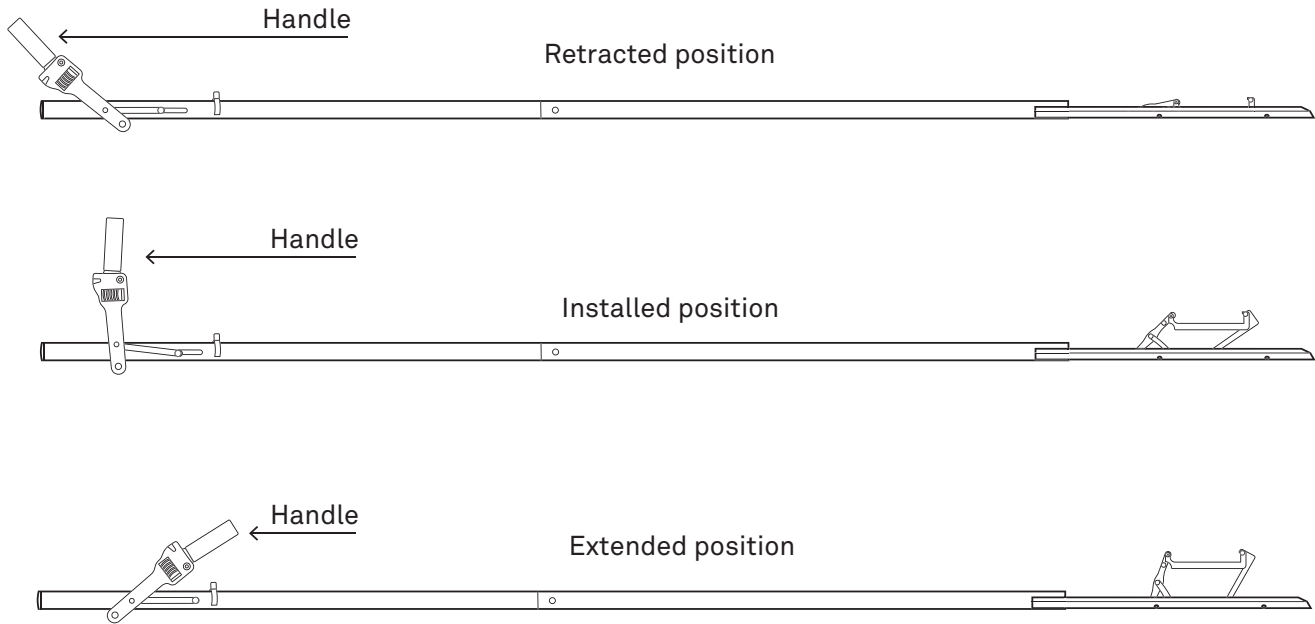
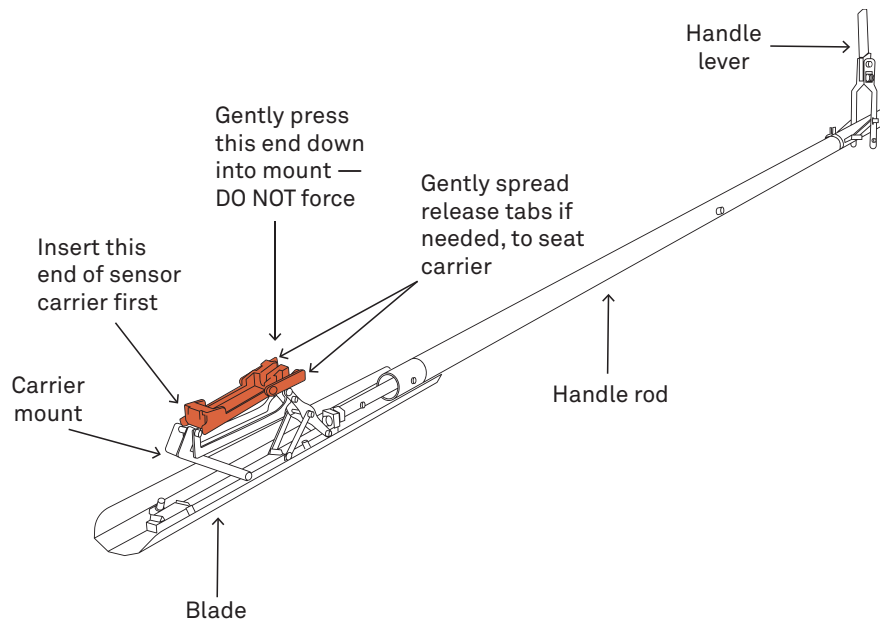

Figure 11 Handle lever positions
Figure 13 Insert sensor carrier
Always install the deepest sensor first. The preparation tool, sensor carrier and sensor should only be inserted while the carrier mount is extended as shown in Figure 13. Figure 11 shows the three different handle lever positions referenced in the following instructions.
3. Slide the carrier end that the **Arrow** points to into the carrier mount (Figure 13).